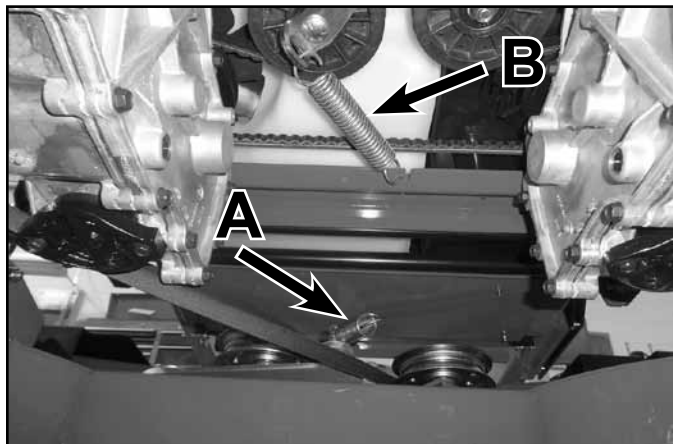

Fig. 050
3. Remove PTO belt tensioner spring (A) from the deck to relieve PTO belt tension (Fig. 050). See PTO Belt Replacement 48, 54 & 60 Inch Deck on page 6-5.
7. Remove the drive belt tensioner spring (B) (Fig. 050).